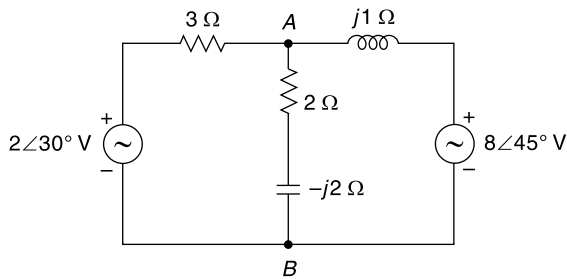

Fig. 6.28 Circuit of Ex. 6.27
6.27 Find the voltage drop across $2\ \Omega$ resistor in the circuit shown in Fig. 6.28 using Thevenin's theorem.